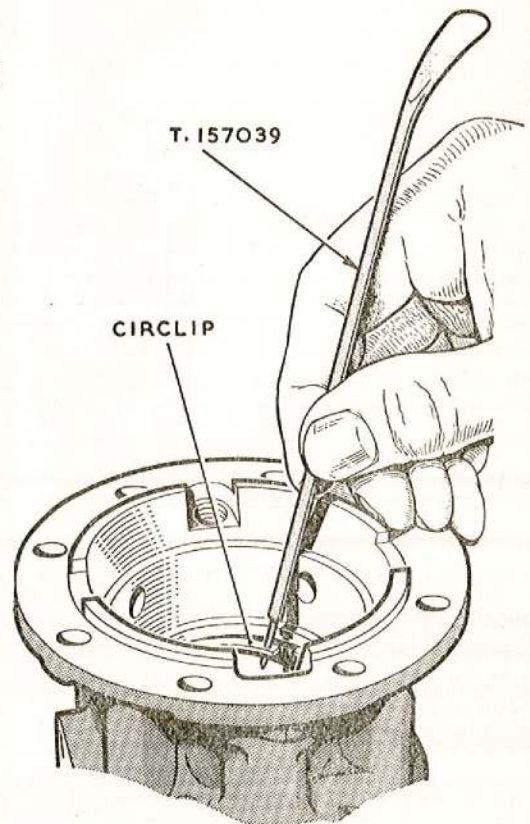

Fig. 15. Removing the rotor carbon bearing circlip
41. With the rotor assembly removed the carbon bearing and port insert is exposed. To remove these components disengage the circlip securing the carbon bearing, spider and port insert by means of the tool T.157039 as shown in fig. 15. Place the fingers of each hand inside the main bearing, press firmly onto the walls of the bore and lift at the same time to draw the bearing from the pump housing.